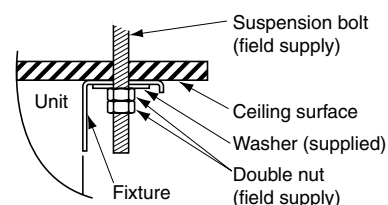

Fig. 3-119
- (6) Carry out the preparation for suspending the indoor unit. The suspension method varies depending on whether there is a suspended ceiling or not. (Figs. 3-119 and 3-120)
- (7) Suspend the indoor unit as follows: